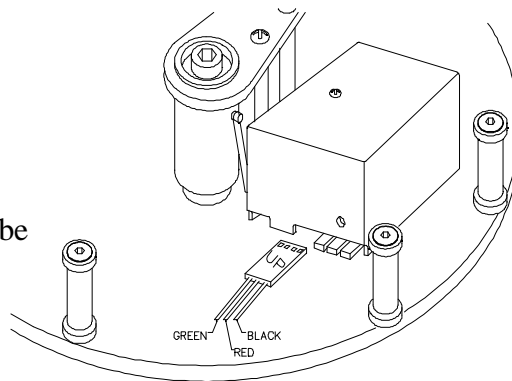

Figure 1
2. Insert the 4 pin plug as shown. (Fig. 1, page 1)